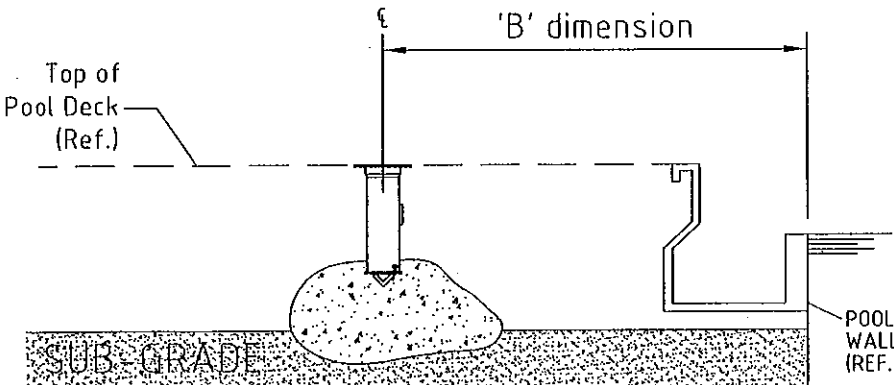

Figure 1: Side Pool Profile with anchor setback.
1. Locate approximately where the starting platforms are to be installed (refer to Figure 1 below). This will be at the 'B' dimension back from the pool wall and at the center of the lane. NOTE: The center of the anchor socket should not be located closer than 5" to joints, trenches, curbs, drains or anything else that disrupts the continuity of the slab. A firm bond between the anchor and the slab must be created and maintained to provide the necessary strength to support the platform.
4. Prop and secure the socket assembly at the correct location and height. The center of the sockets must be set at the exact 'B' dimension as measured from the pool wall. The top of the socket must be flush with the finished face of the pool deck. See Figures 1 and 2 for reference.